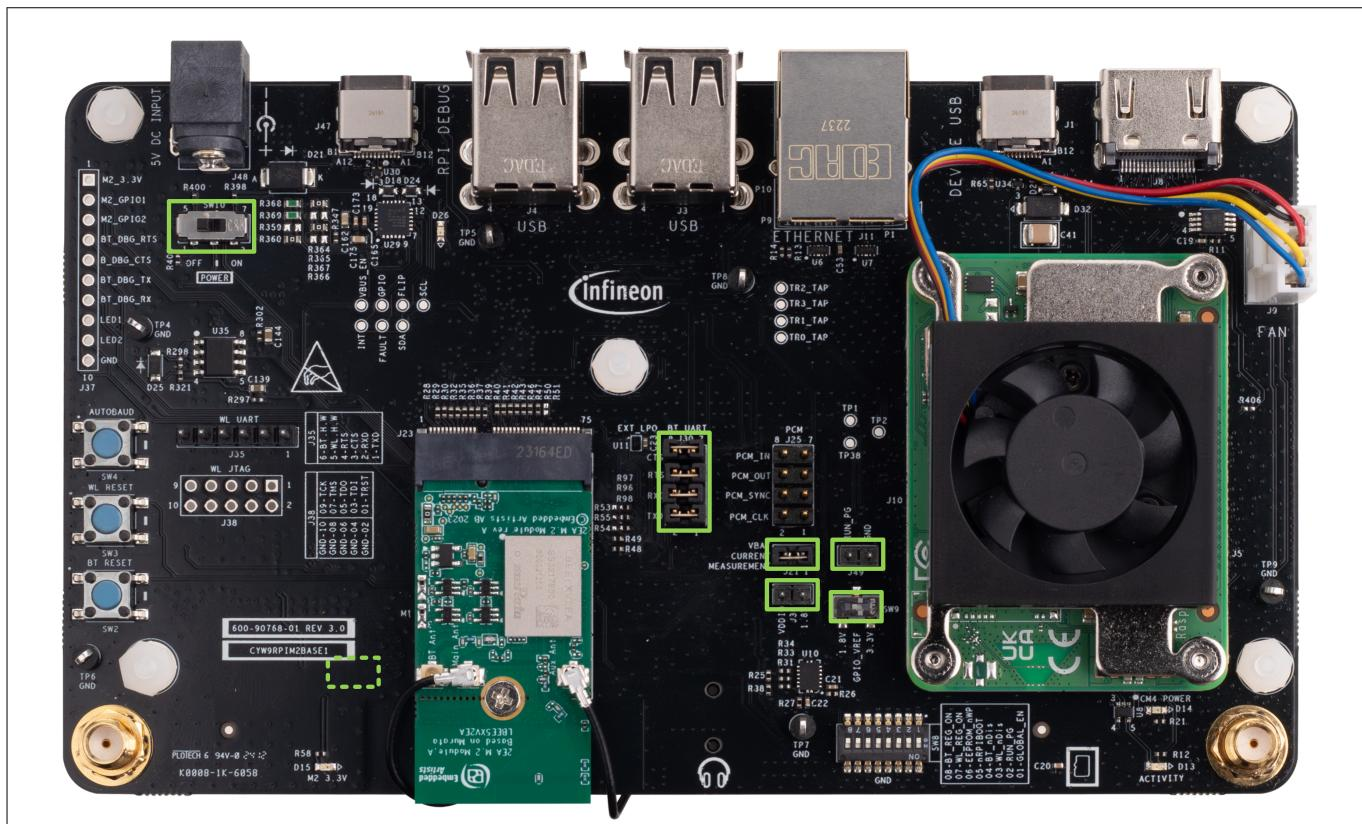

Figure 2 CYW9RPIWIFIBT-EVK default jumper and switch setting
Before connecting the kit to the PC, ensure that all jumpers and switches on the baseboard are in their default configuration as shown in Figure 2 and specified in Table 4 to Table 8.
- Ensure that the jumper and switch settings on the board are configured as shown in Figure 2 and specified in Table 3 to Table 8
2. Ensure that the jumper and switch settings on the board are configured as shown in Figure 2 and specified in Table 3 to Table 8